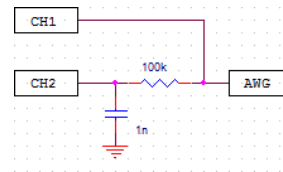

Figure 54: RC Circuit
- 1) Build the circuit shown on figure 54.